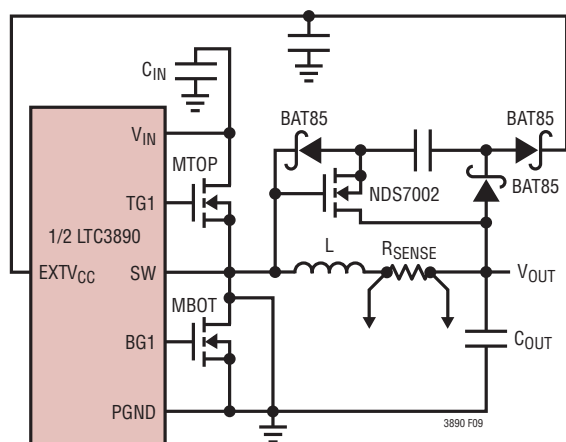

Figure 9. Capacitive Charge Pump for $EXTV_{CC}$
4. $EXTV_{CC}$ Connected to an Output-Derived Boost Network. For 3.3V and other low voltage regulators, efficiency gains can still be realized by connecting $EXTV_{CC}$ to an output-derived voltage that has been boosted to greater than 4.7V. This can be done with the capacitive charge pump shown in Figure 9. Ensure that $EXTV_{CC} < V_{IN}$.